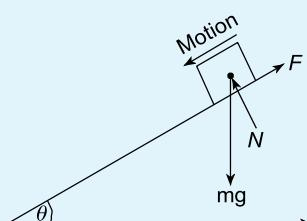

Figure 16.14
- An experiment is required to obtain the static value of μ ; this is achieved by increasing the value of θ until the mass just moves down the plane, as shown in Figure 16.14. If the experimentally obtained value for θ was 22.5° , what is the value of μ ? [$\mu = 0.414$]